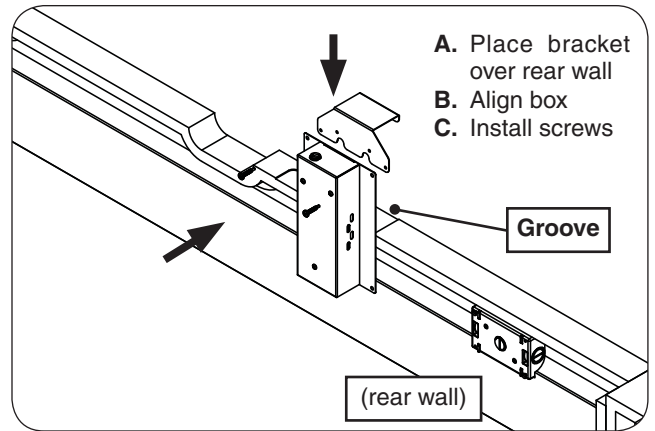

Fig. 11-1 Install power supply box
1. **First** place the power supply box bracket over the rear wall, in the groove just to the right of the heat shield (see Fig. 11-1).
2. Align the pilot holes on the power supply box with the holes on the bracket, then insert the two Phillips screws and tighten with the power drill and #2 Phillips driver (see Fig. 11-1). **DO NOT OVERTIGHTEN.**